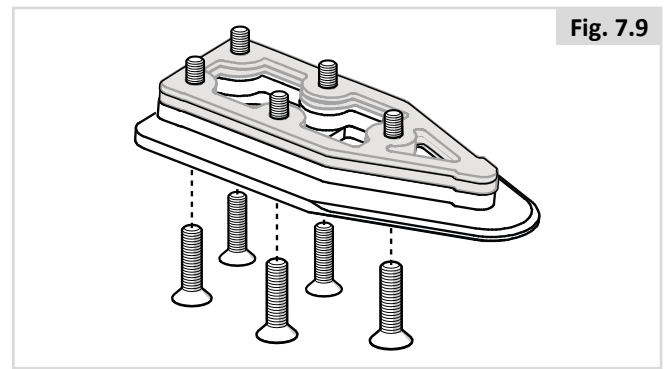

Fig. 7.9
3. Put the five screws through the lock plate, the mandatory 8 mm spacer and the selected optional spacers (grey in picture) (Fig. 7.9).